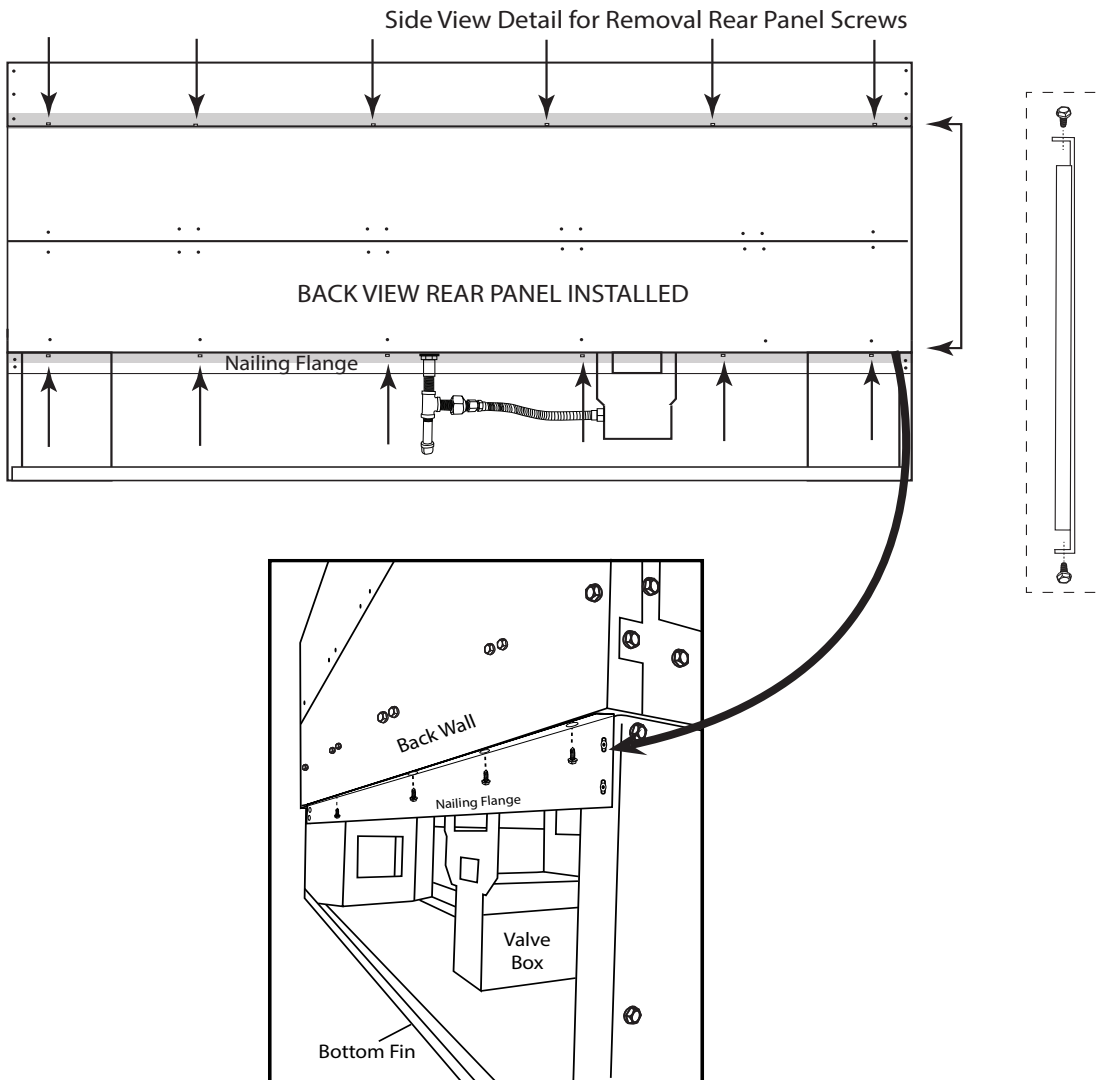

Figure 9 - Removing back wall to convert to see-through model.
Step 1. Look at the back side of the fireplace. Around the outer perimeter area of the frame or back wall are several screws to remove (See the shaded area in **Figure 9**). Only remove the top and bottom screws on the rear panel. The nailing flange will remain in place. The back panel will remove as one panel. **NOTE:** The number of screws removed will vary with each fireplace model.